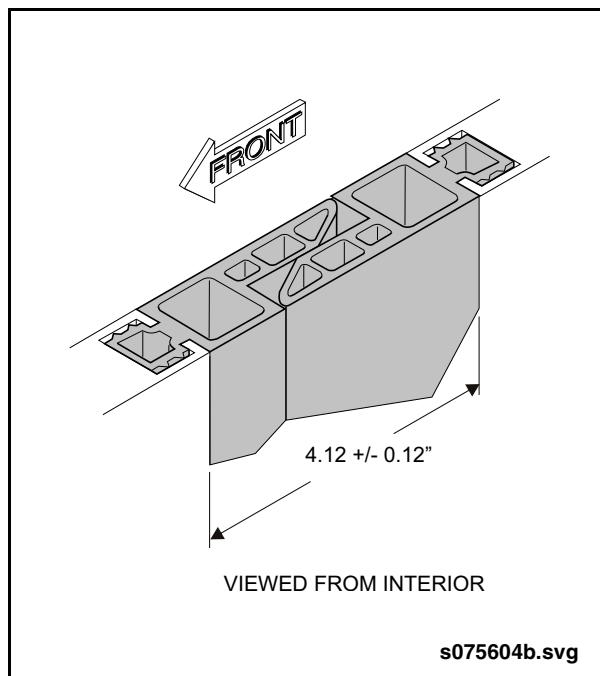

Fig. 16-16: Door Closure Adjustment
10. Apply air to the door motor. With the doors in the closed position, verify that the leading door edge metal to metal distance is  $4.12" \pm 0.12"$  across the entire door length. See "Fig. 16-16: Door Closure Adjustment" on page 36. If adjustment is necessary, loosen the 3/18" - 16 acorn nuts securing the door panel to the door mounting brackets and move the panel forward or aft as required. Remove air from the door motor before making adjustment. Tighten mounting hardware to secure the adjustment.